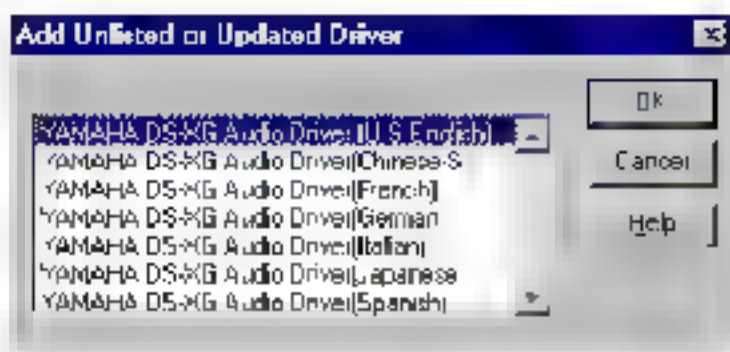

Figure 2-3 The Add Unlisted or Updated Driver window.
- 9) Click on the desired language in the list and click the OK button as shown in Figure 2-3 below.